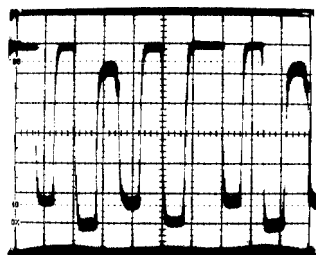

Fig. 2-2
5. Press the VOL. UP/DOWN button on the remote control until the waveform becomes as shown in **Fig. 2-2**.
10. Press the VOL. UP/DOWN button on the remote control until the waveform becomes as shown in **Fig. 2-2**.
13. Press the VOL. UP/DOWN button on the remote control until the waveform becomes as shown in **Fig. 2-2**.